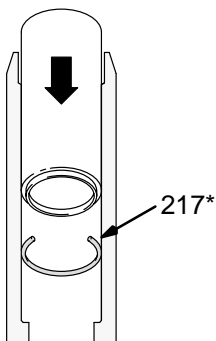

Fig. 30 02573
- Place a o-ring (17\*) in the cylinder. Slide the sleeve in to the cylinder to seat the o-ring. See Fig. 30. Remove the sleeve.